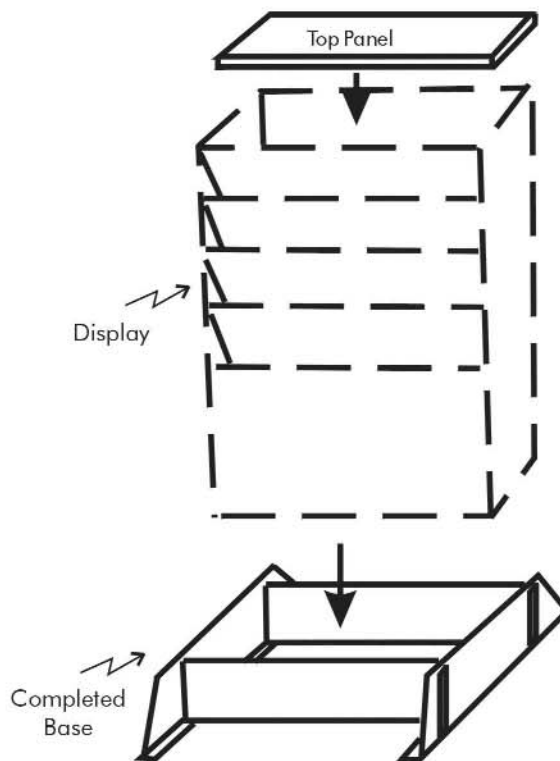

FIGURE 2
- 6) Place the completed Display Rack Base on a flat surface making the opening a rectangle (see Figure 2). Insert the bottom of your Buddy Products Display Rack into the completed Display Rack Base. If you are using two Display Racks and the Buddy Products #818 Base, position the two Display Racks back-to-back and insert into the completed Display Rack Base.